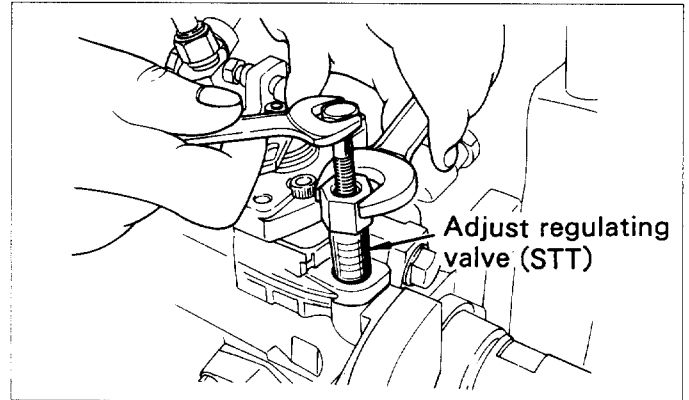

Fig.15-15 Adjustment of regulating valve
(2) If the internal pressure is below the specified level, attach the adjust regulating valve (STT) to the regulating valve, turn the bolt to push in the regulating valve so that the internal pressure is set to the specified level. (See Fig.15-15)